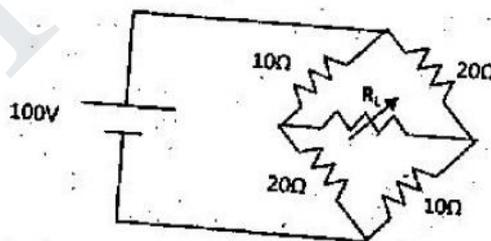

Fig. 3
- (b) (i) State Thevenin's and Norton's theorems. (6)
(ii) For the circuit shown in Fig. 3, determine the value of R_L to get the maximum power. Also find the maximum power transferred to the load. (10)